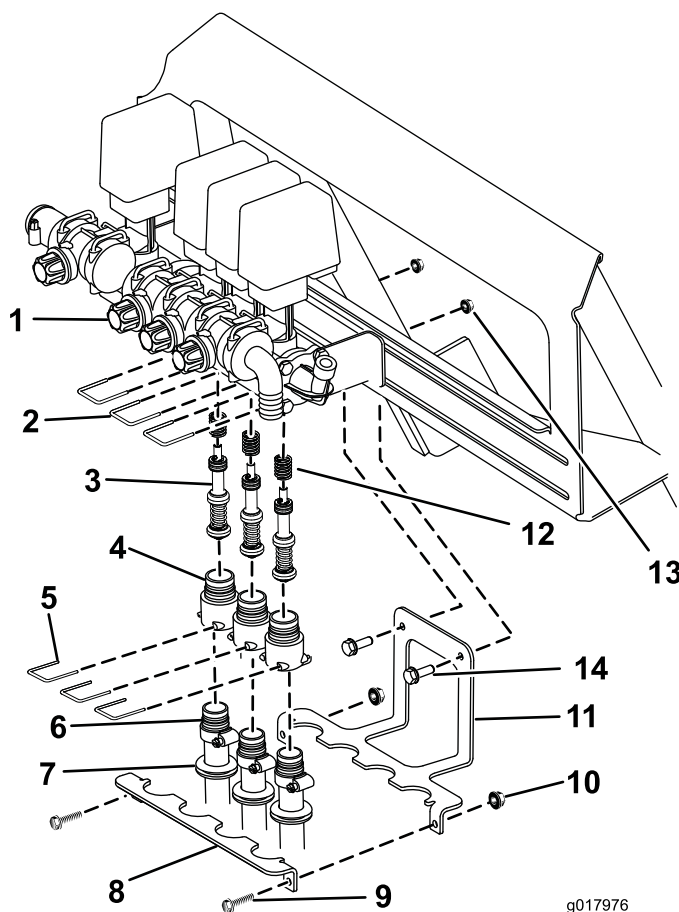

Figure 1
**Note:** Refer to Figure 1 throughout this procedure.
1. Secure the hose stabilizer bracket to the rear of the machine as shown in Figure 1 using 2 bolts (5/16 x 3/4 inch) and flange nuts (5/16 inch).